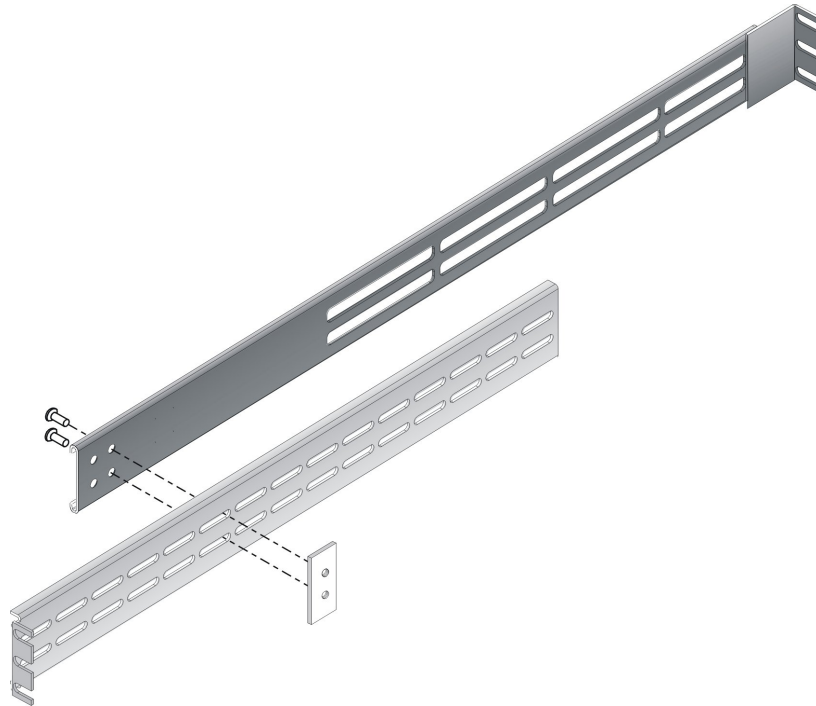

Figure 2.2. Front and Rear Bracket Assembly
- a. Using a #2 Phillips screwdriver and two (2) flat-head Phillips machine screws (#8 x 7/16) per bracket assembly, connect a front and rear bracket together with a two-hole bar nut as shown in Figure 2-2.